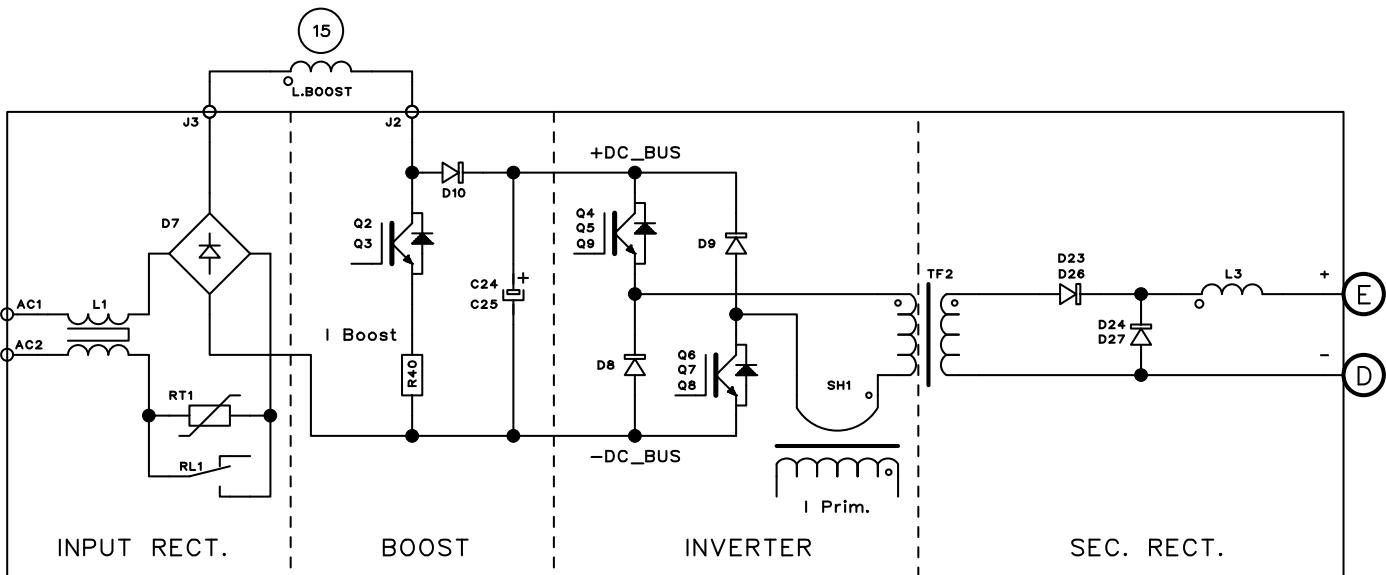

Fig. 2.3.1
More precisely in the power board (12) they can be identified (Fig. 2.3.1):
- the igt inverter, that generates the square wave alternated voltage for the TF2 power transformer, installed on the power board (12);